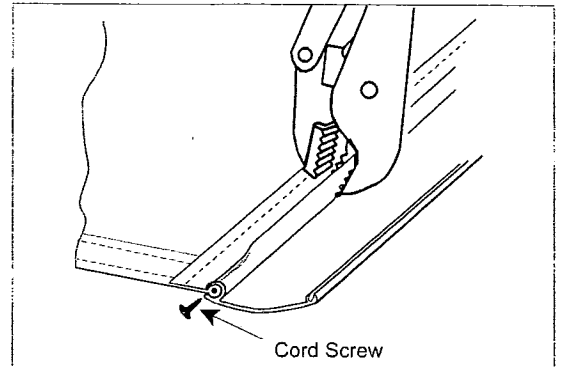

Figure 7
3. Use a vise grip pliers to close down the remaining crimps that were previously opened (Fig. 7) just enough to prevent the fabric from shifting in the case channel. Crimp only on each side of, not over, the seams.